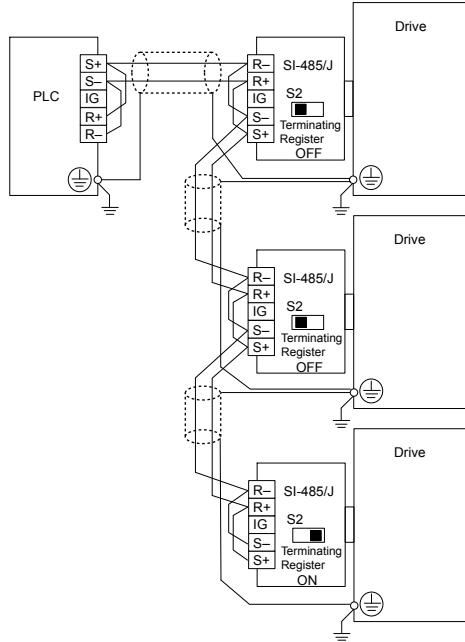

Figure C.3 RS-485 Interface
*Figure C.3* and *Figure C.4* explain the wiring diagrams for multiple connections using MEMOBUS/Modbus communication.